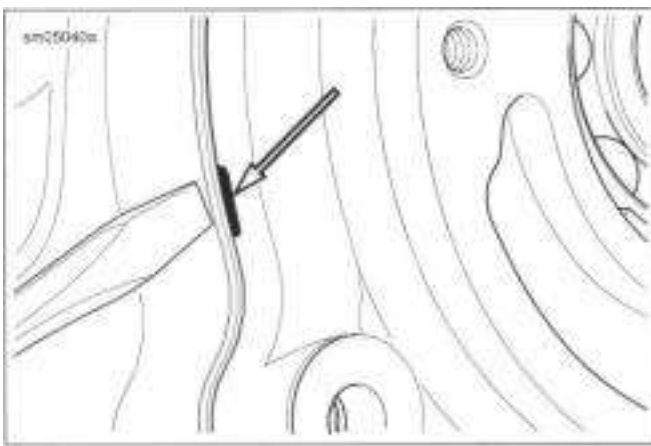
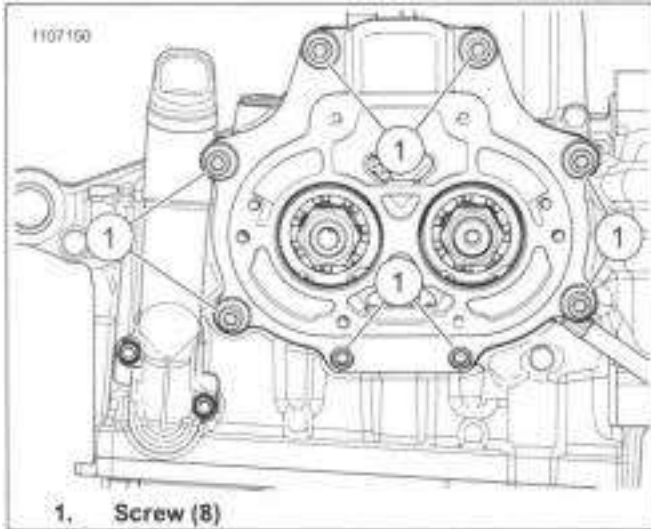
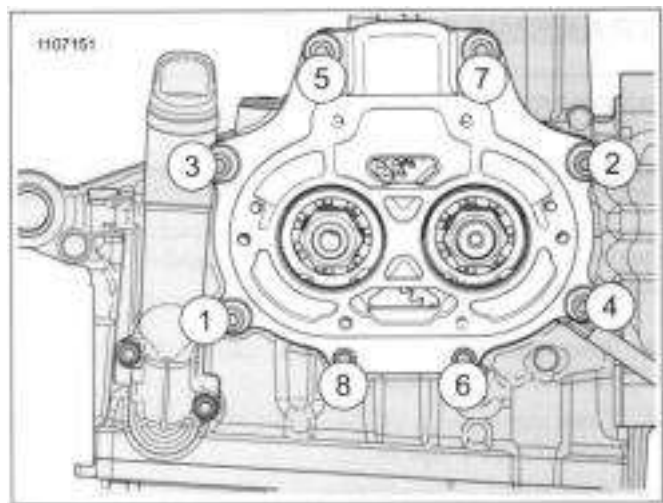

Figure 5-43. Bearing Housing Pry Point
Figure 5-44. Bearing Housing Screws
Figure 5-45. Transmission Bearing Housing Tightening Sequence
**See Figure 5-43. Always pry bearing housing loose. Never tap on shafts to remove transmission assembly. The bearing housing bearings will be damaged.**
6. See Figure 5-44. Remove the transmission and bearing housing assembly:
- a. Remove the transmission bearing housing screws (1).
- b. See Figure 5-43. Pry the bearing housing loose.
5. See Figure 5-44 . Install transmission bearing housing.
- a. Install screws (1).
- b. See Figure 5-45. Tighten in sequence to 22-25 ft-lbs (29.8-33.9 N-m). '